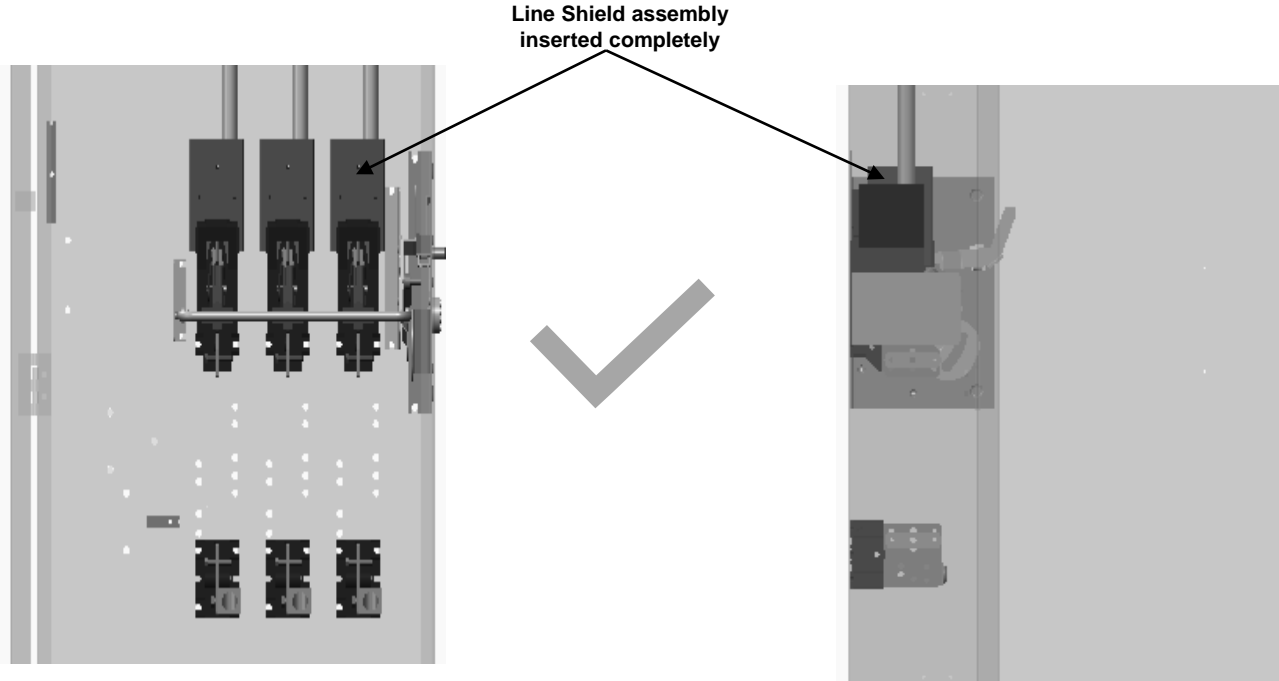

Fig. 4
5. To ensure the barrier blocks inadvertent access to the line terminal, ensure the barrier is snapped down and the wires exit through the holes in the barrier. See Fig. 4